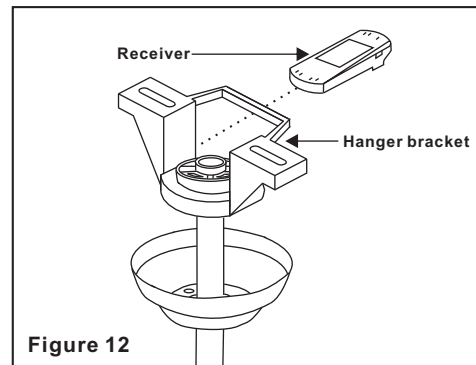

Figure 12
**Step 1.** Insert Receiver into Hanger Bracket with the flat side of the Receiver facing the ceiling. (Fig. 12)